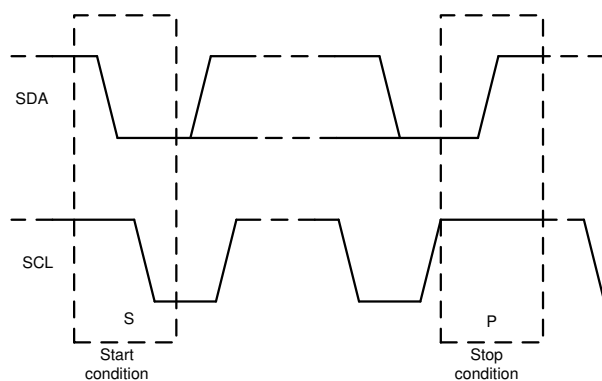

**Figure 7-18. Acknowledge and Not Acknowledge on the I2C Bus**
Other than specific timing signals, the I2C interface works with serial bytes. At the end of each byte, a ninth clock cycle generates and detects an acknowledge signal. An acknowledge is when the SDA line is pulled low during the high period of the ninth clock cycle. Figure 7-18 depicts a not-acknowledge, when the SDA line is left high during the high period of the ninth clock cycle.
2. The controller then generates the SCL pulses, and transmits the 7-bit address and the read/write direction bit ( $\overline{R/W}$ ) on the SDA line. During all transmissions, the controller makes sure that data are valid. Figure 7-20 shows that a valid data condition requires the SDA line to be stable during the entire high period of the clock pulse. All devices recognize the address sent by the controller and compare the address to the respective internal fixed address. Only the target device with a matching address generates an acknowledge by pulling the SDA line low during the entire high period of the 9th SCL cycle (see also Figure 7-18). When the controller detects this acknowledge, the communication link with a target has been established.